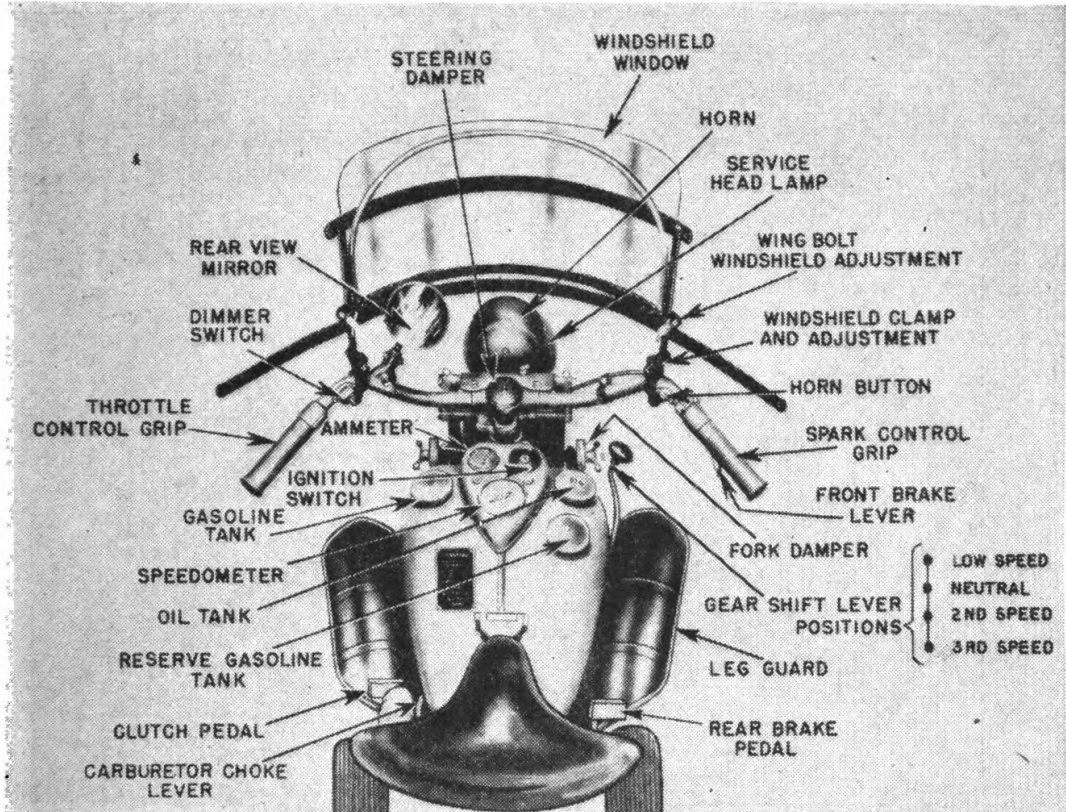

FIGURE 4.—Controls—Indian motorcycle.
*b.* The motorcyclist must first become familiar with the location of the various controls on the two makes of motorcycles used by the Army—the Indian and the Harley-Davidson—and also with the differences between the shaft-driven (second part of this section) and the chain-driven models. Figures 4 and 5 illustrate the controls on the Indian and Harley-Davidson chain-driven models respectively.
**12. Gear-shift lever.**—Positions of the gear-shift lever for the various speeds are shown on the shifter guide located on the left fuel tank of the Harley-Davidson. These positions on the Indian are shown in figure 4. Before starting an engine, always place the gear-shift lever in neutral position. Whenever shifting gears, disengage the clutch before moving the shifting lever. Failure to declutch may result in stripping or shearing the teeth of the transmission gears.